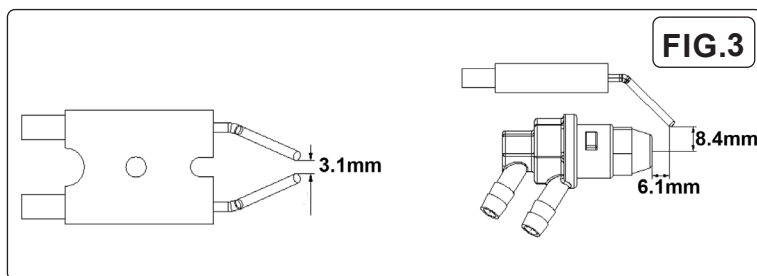

FIG.3
7.6.3. Ignition Electrodes fig.3
Clean and if necessary replace the ignition electrode. For electrode gaps see fig.3.